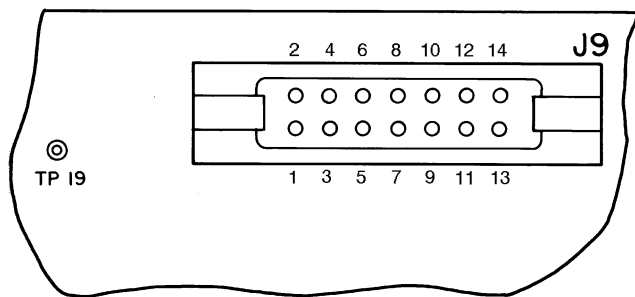

Fig. 50 — Relay Board Pin Terminal Connector (J9)
9. Place negative lead on terminals shown in Table 23, and check voltage between TP15 and terminals shown in Table 23 on pin terminal connector J9. See Fig. 50 for J9 details.